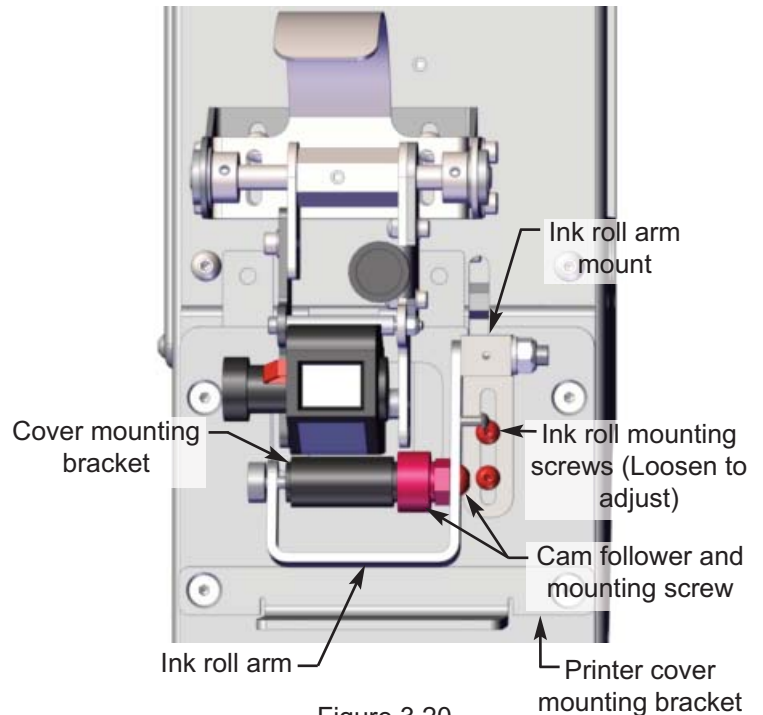

Figure 3.20
2. If the ink roll is tipped, align it by slightly loosening the screw that attaches the cam follower to the ink roll arm (Figure 3.20).